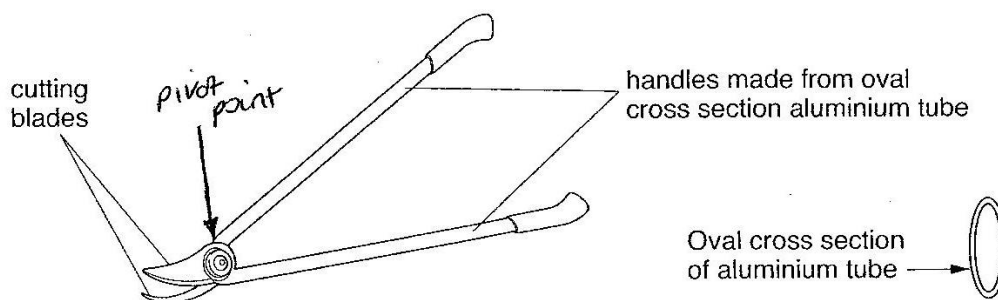

Fig. 6
Fig. 6 shows a pair of garden pruning shears.
- (a) On Fig. 6 label the pivot point. [1]